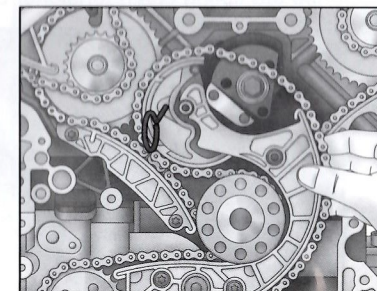

Fig.48
- (4) Remove the bolts from the auxiliary drive chain tensioner, and remove the tensioner with the chain. (Fig.48)